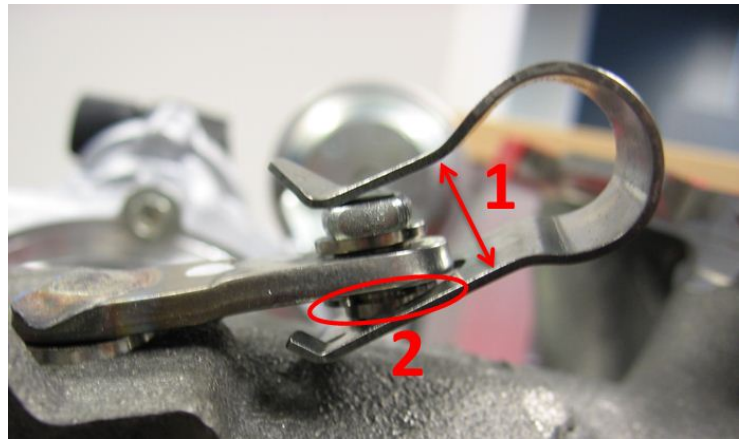

Figure 3. (1) Maximum opening of clip, (2) Position of original circlip
- The spring clip must not be overstretched. The maximum opening of the spring clip is 14 mm (Figure 3, 1).